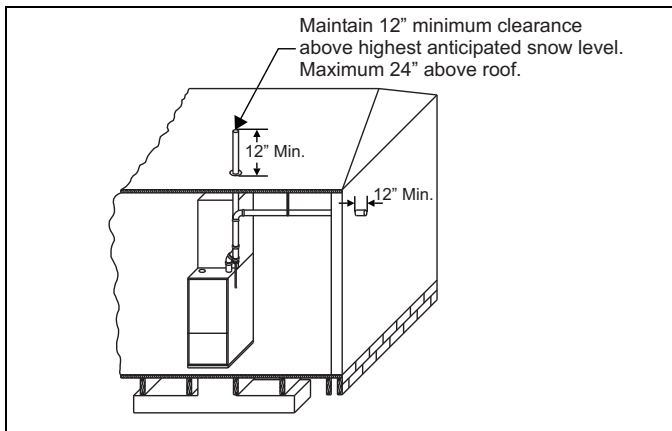
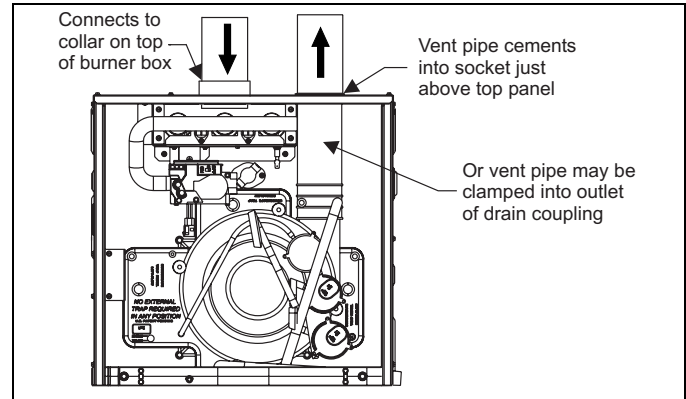

FIGURE 30: Termination Configuration - 1 Pipe
FIGURE 36: Direct Vent Air Intake Connection and Vent Connection
The combustion air side of the single pipe configuration shown in Figure 30 is referred to in these instructions as ambient combustion air supply. Follow the instructions for ambient combustion air installations, paying particular attention to the section on air source from inside the building. The vent for a single pipe system must be installed as specified in the venting section of these instructions with the vent terminating as shown in Figure 30. Each furnace must have a separate vent pipe. Under NO circumstances can the two vent pipes be tied together.
2. **AMBIENT COMBUSTION AIR:** Combustion air is supplied from the area surrounding the furnace through openings in the furnace casing. The combustion air and the vent pipes are not terminated in the same atmospheric zone. Refer to Figure 30 for vent terminations. Refer to "Ambient Combustion Air Supply" for proper installation. Refer to Figure 36.